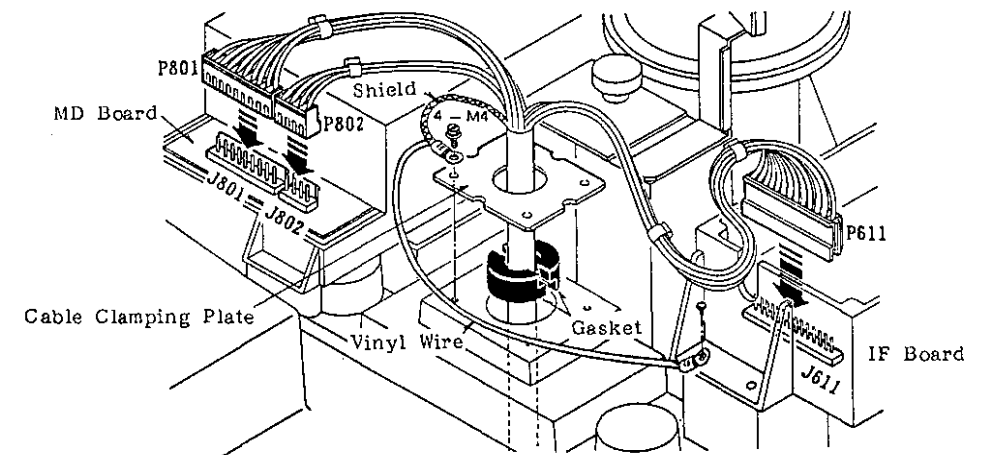

Fig.7 Cable Connection and Grounding
- Remove the cable clamping plate by loosening four M4 screws and two gaskets at the radome base. See Fig.7.
- Secure the cable with the cable clamping plate and gaskets. Ground the shield and vinyl cables by using one of the fixing screws for the cable clamping plate and for the IF amp. chassis. See Fig.7.
- Mate the two plugs (9 and 4 ways) to the MD board. Remove the lid of the IF board and mate the plug (14 ways), referring to Fig.7.